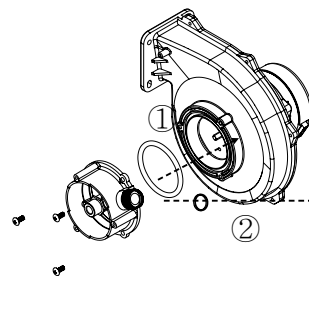

Figure 7
9. Replace the old 'Gas Mixer Body' with new one for LP gas (Natural gas) use. The gas type is printed on the Gas Mixer Body, refer to the table above. A new O-ring (①) and Packing (②) are supplied with the conversion kit. Make sure to replace each part. Use a hand screwdriver to tighten the Gas Mixer Body and then use a crescent wrench to tighten the gas inlet pipe to the Gas Mixer Body. See Figure 7.